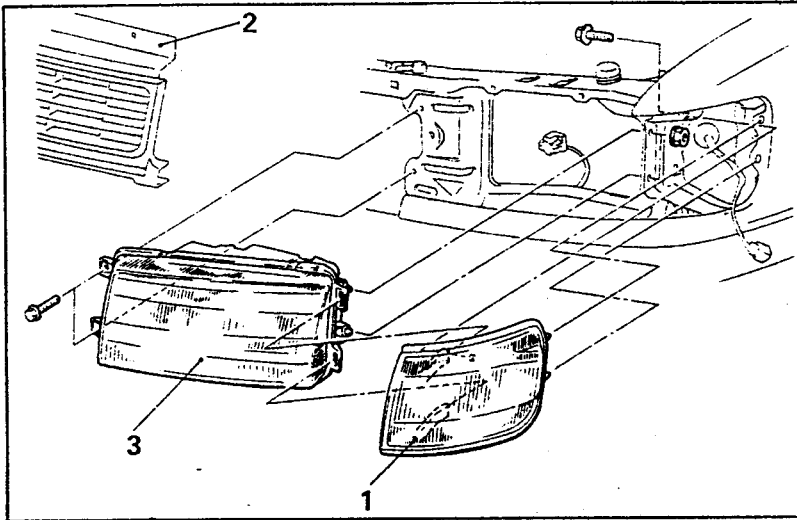

Fig. 14.1. — Details for the removal and installation of the headlamps.
The component parts of a headlamp are shown in Fig. 14.1. The headlamp bulbs are replaced from the inside of the engine compartment. Remove a headlamp bulb as follows:
- Referring to Fig. 14.1, unscrew the position lamp from the side of the headlamp.